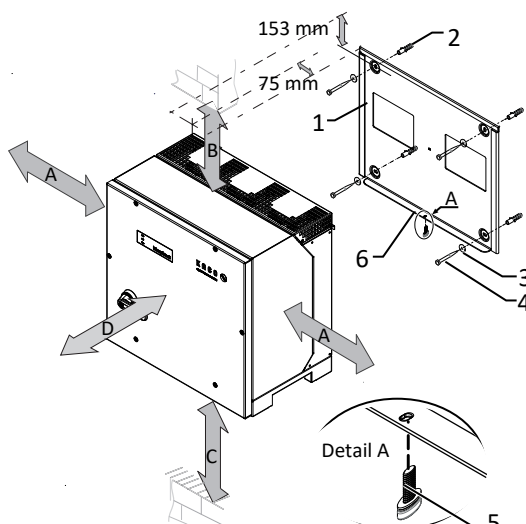

Fig. 16: Minimum clearances for wall mounting
3. Insert the screw provided into the lug of the mount and [XT30 /  2 Nm] ([See figure 16 [► Page 20]]).